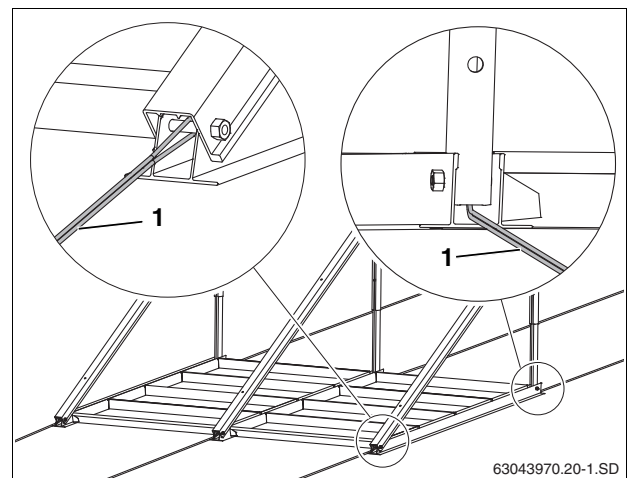

Fig. 28 Flat roof rack with guy wires
- ▶ Attach each collector on site to the bolt on the lower profile and a suitable point on the roof, using at least 2 guy wires (Fig. 28, [1]).